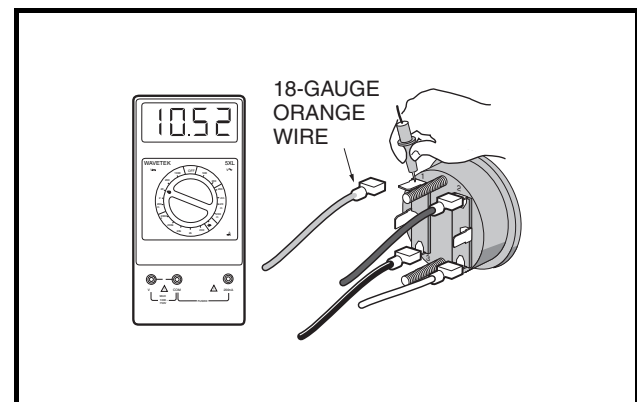

Figure 11-54 Fuel Gauge Voltage Test
10. The orange wire should remain disconnected for this step. With the black probe still on the (3) terminal of the fuel gauge/hour meter, place the red (+) probe of the multimeter on the (1) terminal of the fuel gauge/hour meter. The voltage reading should be the same as the full battery voltage reading obtained in step 6. If the reading is incorrect, replace fuel gauge/hour meter (Figure 11-54, Page 11-44).